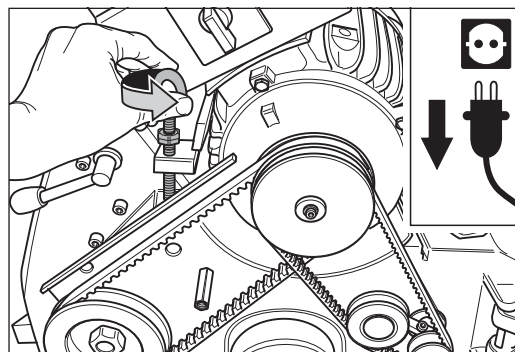

Fig. 26 Release the V-belt tension by loosening the tensioning bolt at the motor.
- 5 Remove the belt guard and release the V-belt tension by loosening the tensioning bolt at the motor (Fig. 26).